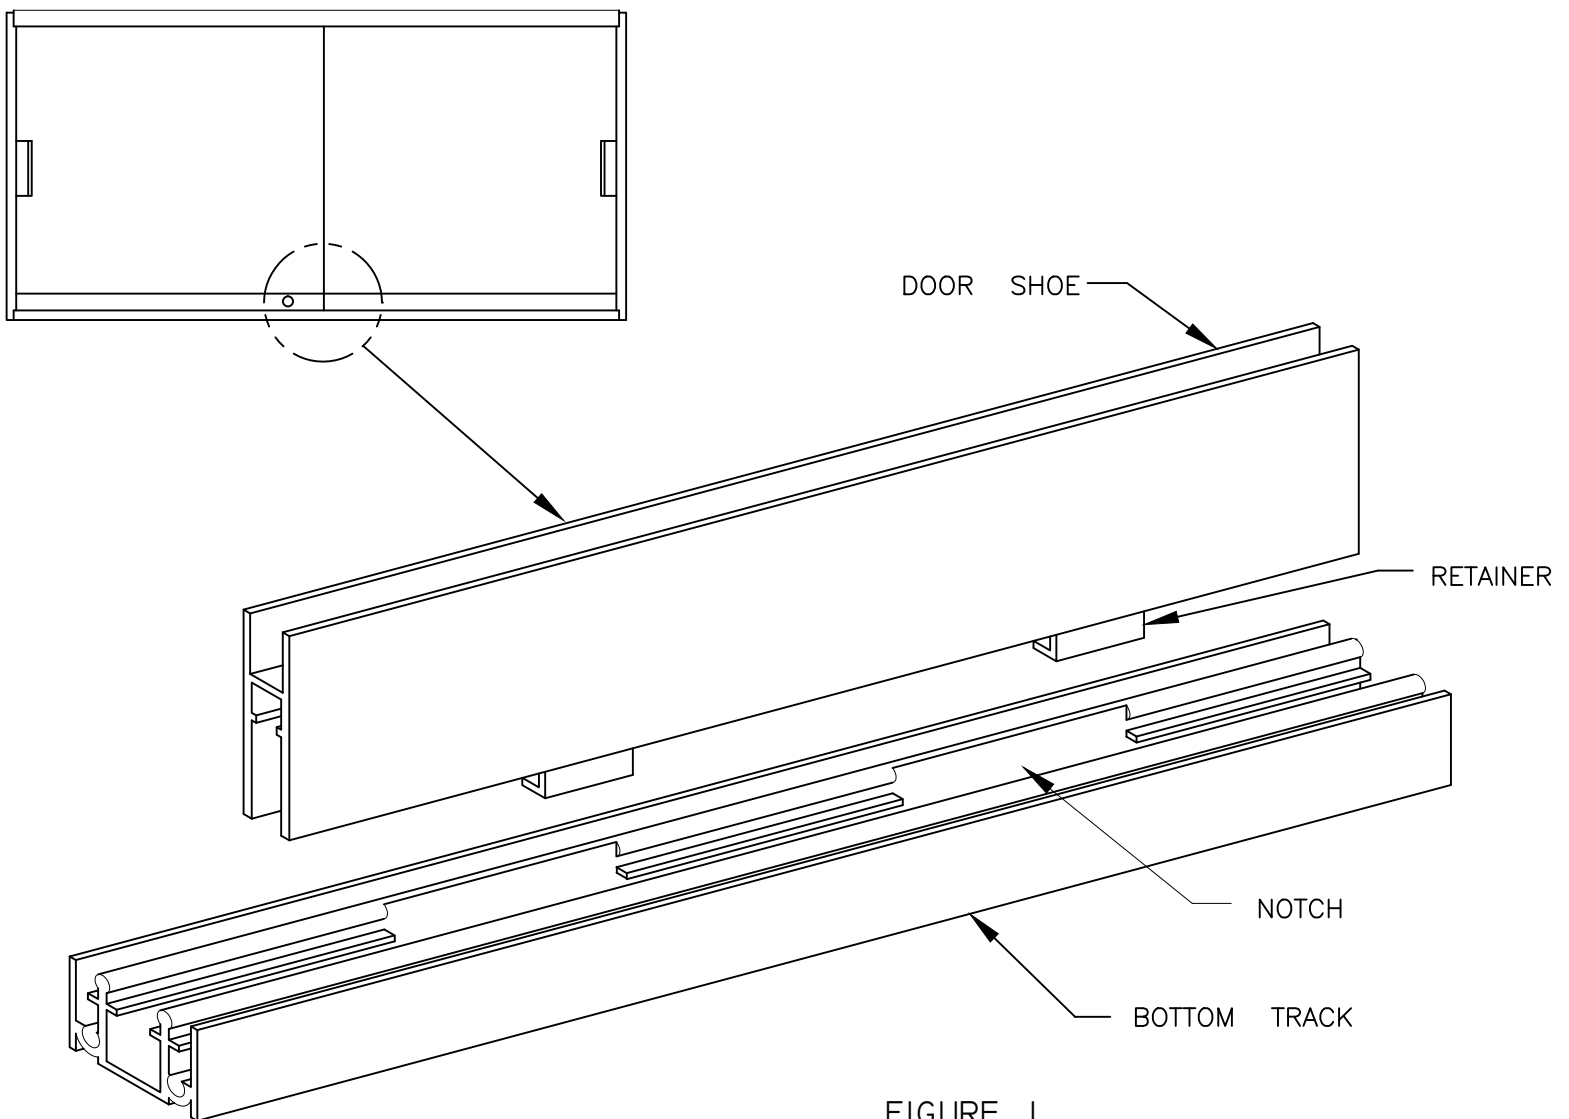

FIGURE 1
- A. Slide door on exterior track until retainers align with notches in track. The door can now be lifted upwards into the top frame. The retainers must align with notches before door can be removed (see Figure 1).